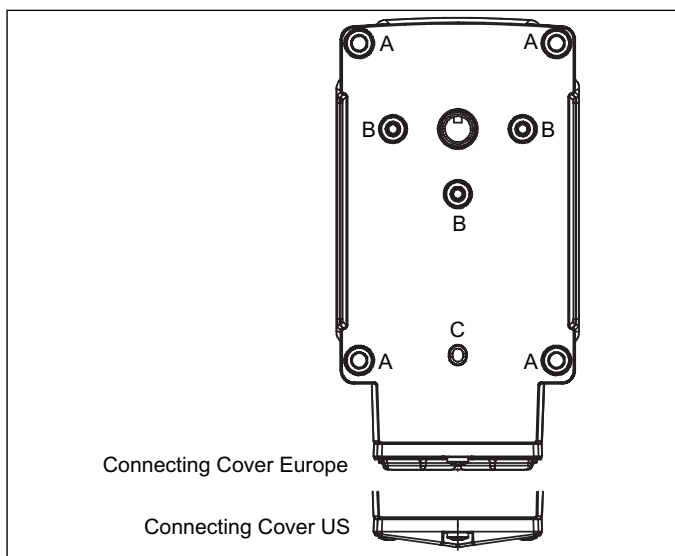

Figure 3.1. Mounting Hole Location
- The actuator housing has seven possible mounting holes, as shown in Figure 3.1.
- Determine if the butterfly valve (BV) has unrestricted full rotation or if it has physical stops that limit rotation to a specific angle. Also, determine the minimum position, rotation direction to open, and maximum open position for the BV.